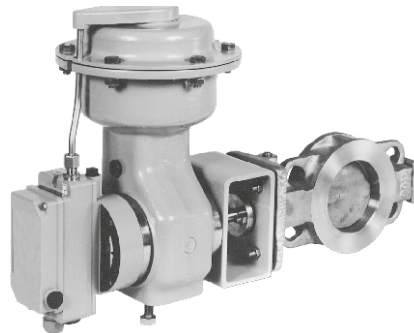

Fig. 11 · Attachment to Rotary Actuator
- Attachment to rotary actuators acc. to VDI/VDE 3845 (Fig. 11)